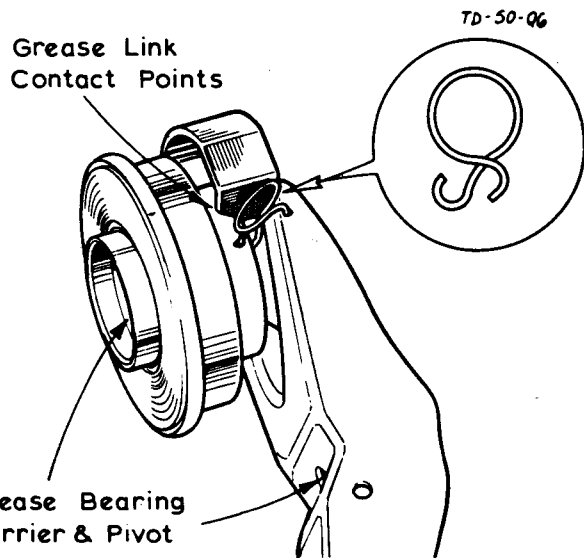

Fig. 6. THRUST BEARING LINKAGE TO ARM
3. Before refitting the engine the opportunity should be taken to lubricate the clutch release bearing carrier (Fig.6) and the clutch fork pivot. Use Duckhams 'KE.24' grease or its equivalent.